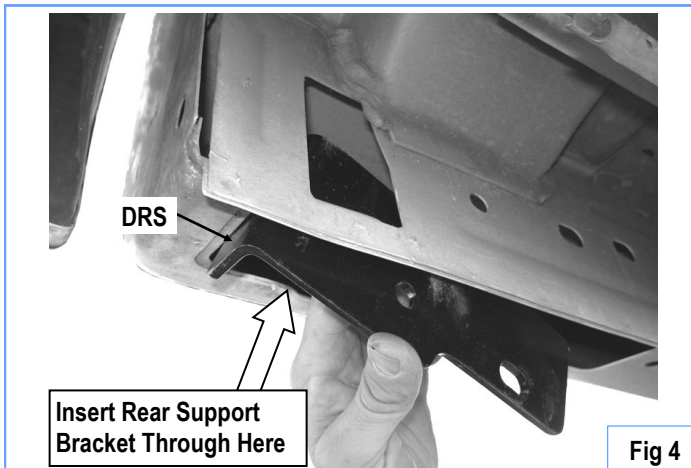

Fig 4
With the 90° bend towards the rear of the vehicle and facing the side of the vehicle, insert the Driver Rear Support Bracket (**DRS**) through rectangular hole located in the bottom of the body (**Fig 4**). Line up the hole in the 90° bend with factory hole located between the cab and the bed of the vehicle and secure it using the (1) M10X1.5-30mm Hex Bolt, (1) M10 Lock Washer, (1) M10X1.5 Hex Nut, and (2) M10 Flat Washers, (**Fig 5**). Do not fully tighten at this time.